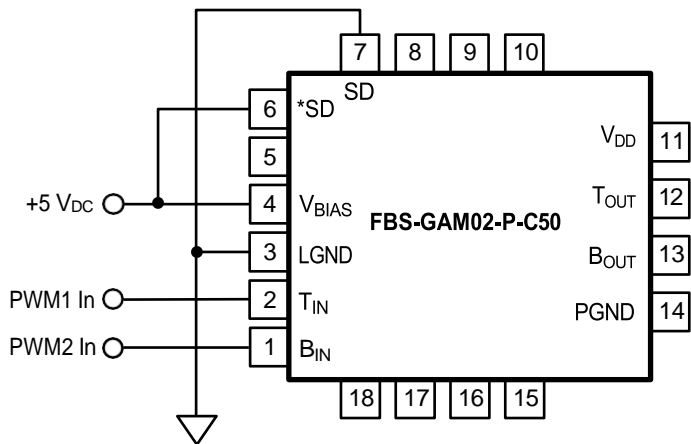

Figure 18. PG Protection Functions Disabled
The FBS-GAM02-P-C50 incorporates a Power Good (PG) sensing circuit that disables both the low- and high-side internal gate drivers when the +5 VDC gate drive bias potential (VBIAS) falls below an under-voltage threshold, typically 4.45 VDC, or rises above a potentially-damaging VBIAS over-voltage threshold level – refer to Figure 5 for the proper operational nomenclature and functionality versus the state of the VBIAS power supply. During the time when the VBIAS potential is outside of the pre-set threshold(s), the PG output (Pin 5) pin is logic low (“0”). Alternatively, when the VBIAS potential is within the pre-set thresholds the PG pin is logic high (“1”). The logic condition of the PG pin may be sensed by a rad hard FPGA or Microcontroller/DSP in-order to determine when the power switches in the FBS-GAM02-P-C50 may be driven with a pulse-width modulated (PWM) input signal(s) at the BIN and TIN logic inputs. If either the under-voltage and over-voltage indication features are not required or desired, then these functions may be disabled separately by connecting the \*SD (Pin 6) pin to VBIAS (pin 4) for the UVLO or the SD pin (Pin 7) to LGND (pin 3) for the 0 VDC indicator, as shown in Figure 18.